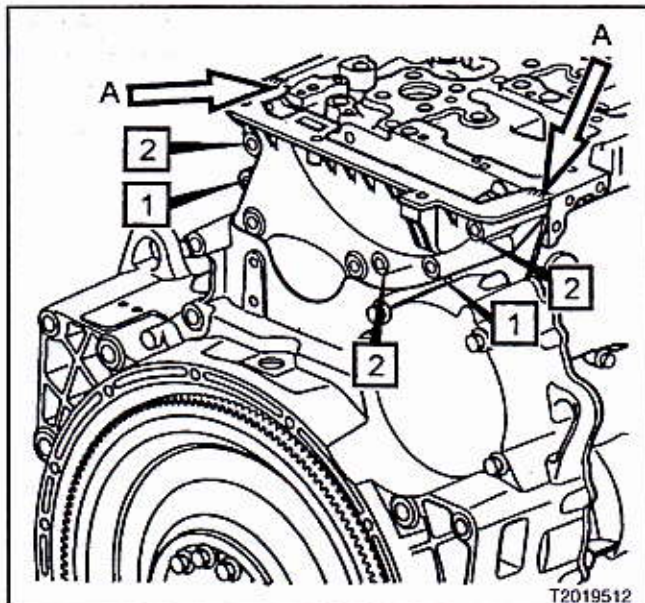

Figure 455 — Timing Gear Cover Installation
17. Place the timing gear cover in position on the engine. Install two capscrews (item 1 in Figure 455) and hand tighten.
18. Using alignment tools, 85111422A and 85111422B, ensure that the upper and lower seals are properly seated and that the upper surface of the cover is flush with the top of the cylinder head (points A in Figure 455).
19. Install the three remaining capscrews (item 2 in Figure 455) and tighten to specification.